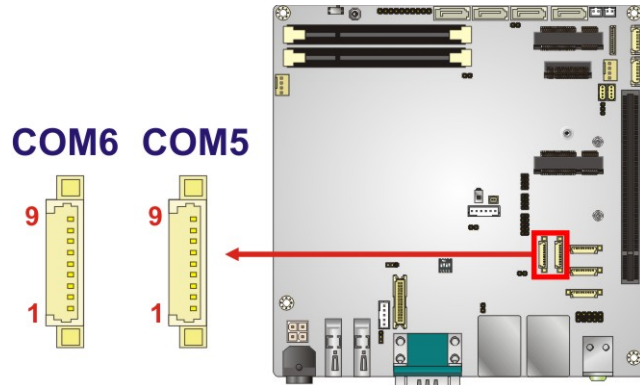

Figure 3-20: RS-232/422/485 Connector Locations
- CN Location:** See Figure 3-20